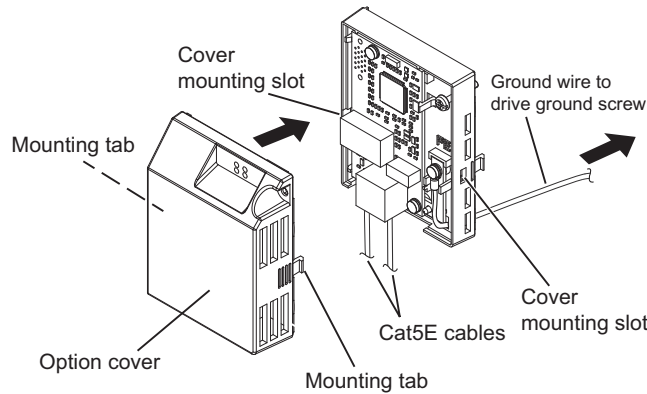

Figure 26 Attach the Option Cover
25. For IP66/UL Type 4X enclosure models, attach the option cover by aligning the tabs with the mounting holes and seat the front cover into place (see Figure 26).